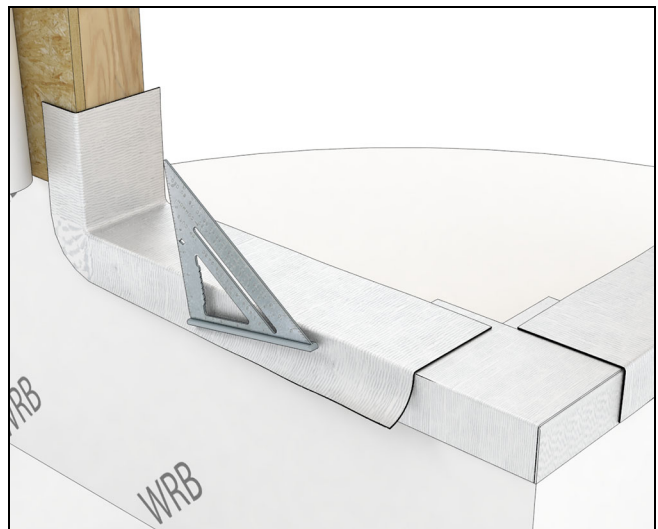

Figure 23
10. Fold the flexible flashing down over the outside. Smooth out the flashing with the edge of a speed square or other tool to ensure there are no bubbles or voids. See Figure 23.